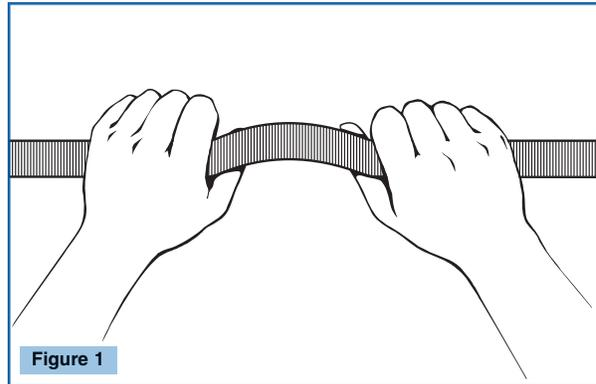

Figure 1
- 1. Check straps and pads.** Make sure straps and pads are free of tears, burns, broken stitches, or excessive wear. Since leather is subject to deterioration, carefully check for cracking, wearing thin, tearing, weakening, chemical attack, or other signs of deterioration. (See Fig. 1)